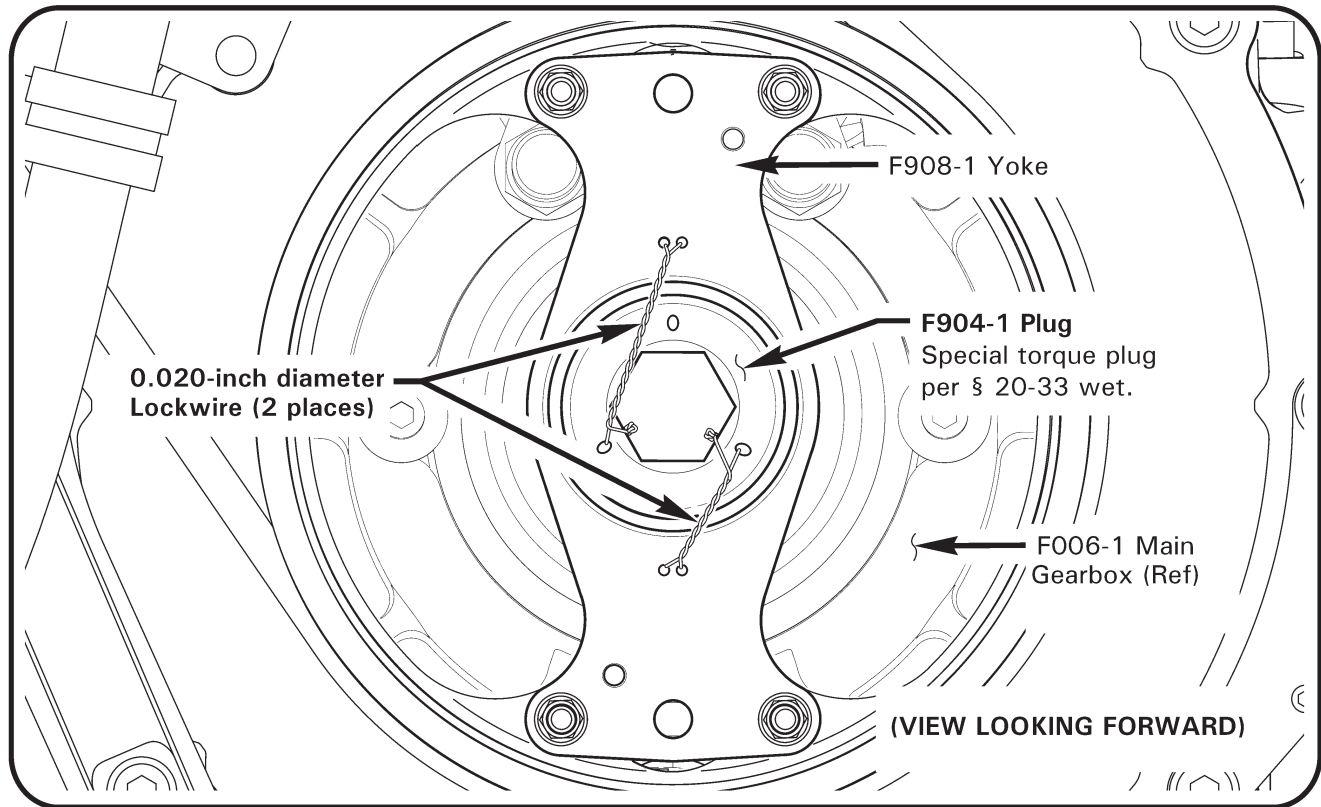

FIGURE 63-2 F908-1 YOKE ASSEMBLY INSTALLATION
4. Refer to Figure 63-2. Set rotor brake. Remove and discard lockwire securing F904-1 plug to yoke and remove plug using a 3/4-inch hex-bit socket. Visually inspect forward C947-3 flex plate assembly and plug for damage. Order replacement parts from RHC Customer Service if damage is found.
5. Refer to Figure 63-2. Apply light coat of A257-9 anti-seize to F904-1 plug threads, install plug in gearbox, and special torque plug per MM § 20-33.